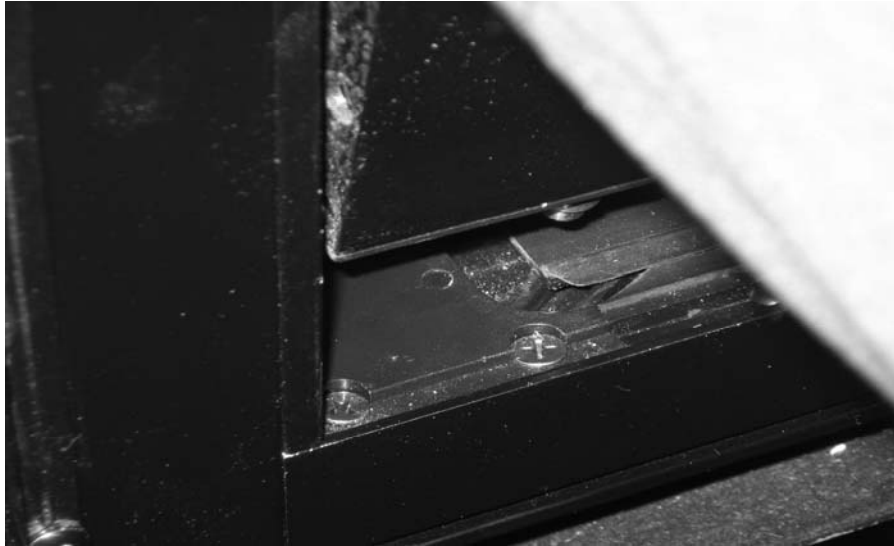

FIGURE 44: POSITIONING THE LOWER LEFT CORNER OF THE SASH
1. Align the leading edge of the slot on the lower cam follower block with the sash stop. Use the power toggle switch to obtain the correct alignment. (Figure 44)